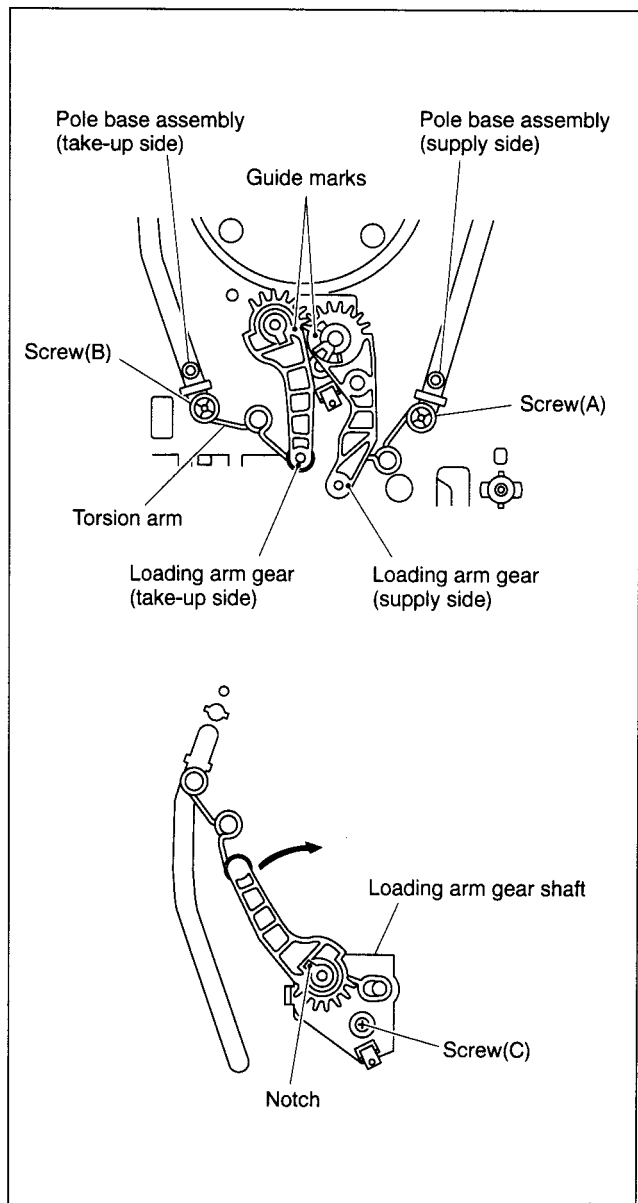
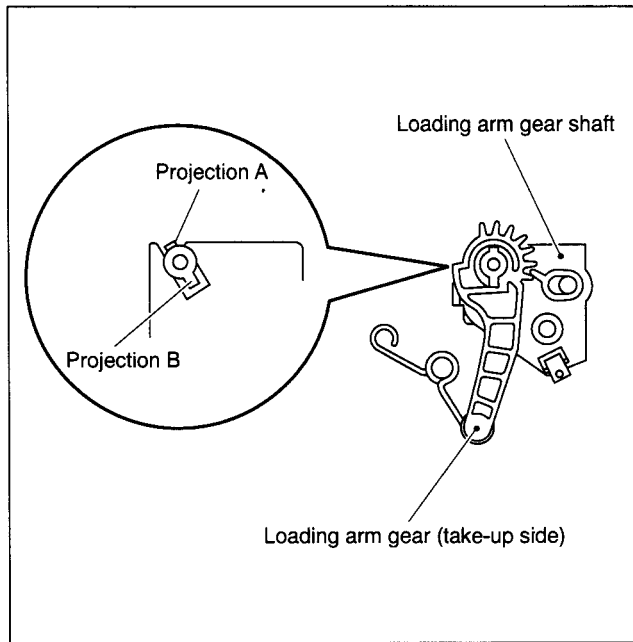

Fig. 2-2-32
Fig. 2-2-33
- (1) Remove the loading arm gear (supply side) by loosening the screw (A). (See Fig. 2-2-32.)
- (2) Remove the screw (B) and remove the torsion arm from the pole base assembly (take-up side). (See Fig.2-2-32.)
- (3) Turn the loading arm gear (take-up side) clockwise so that the notch of the loading arm gear (take-up side) is in alignment with the projection of the loading arm gear shaft and lift it.
- Likewise, turn the loading arm counterclockwise so that the notch is in alignment with the projection and remove the loading arm gear (take-up side). (See Fig.2-2-32 and Fig. 2-2-33.)
- (4) When removing the loading arm gear shaft, be sure of first removing the screw retaining the drum assembly (on the back side of the loading arm gear shaft). Then remove the screw (C) and remove the loading arm gear shaft by sliding it.
- (1) Align the notch of the loading arm gear (take-up side) to the projection B of the loading arm gear shaft and slip it over. Then rotate it clockwise for alignment with the projection A and slip it down to the bottom. (See Fig.2-2-33.)
- (2) Then turn the loading arm gear (take-up side) counterclockwise. Hang the torsion arm on the pole base assembly (take-up side) and tighten the screw (B).
- (3) Install the loading arm gear (supply side) so that the guide mark of the loading arm gear (take-up side) is in alignment with the guide mark of the loading arm gear (supply side). Then hang the torsion arm on the pole base assembly (supply side) and tighten the screw (A). (See Fig.2-2-32.)